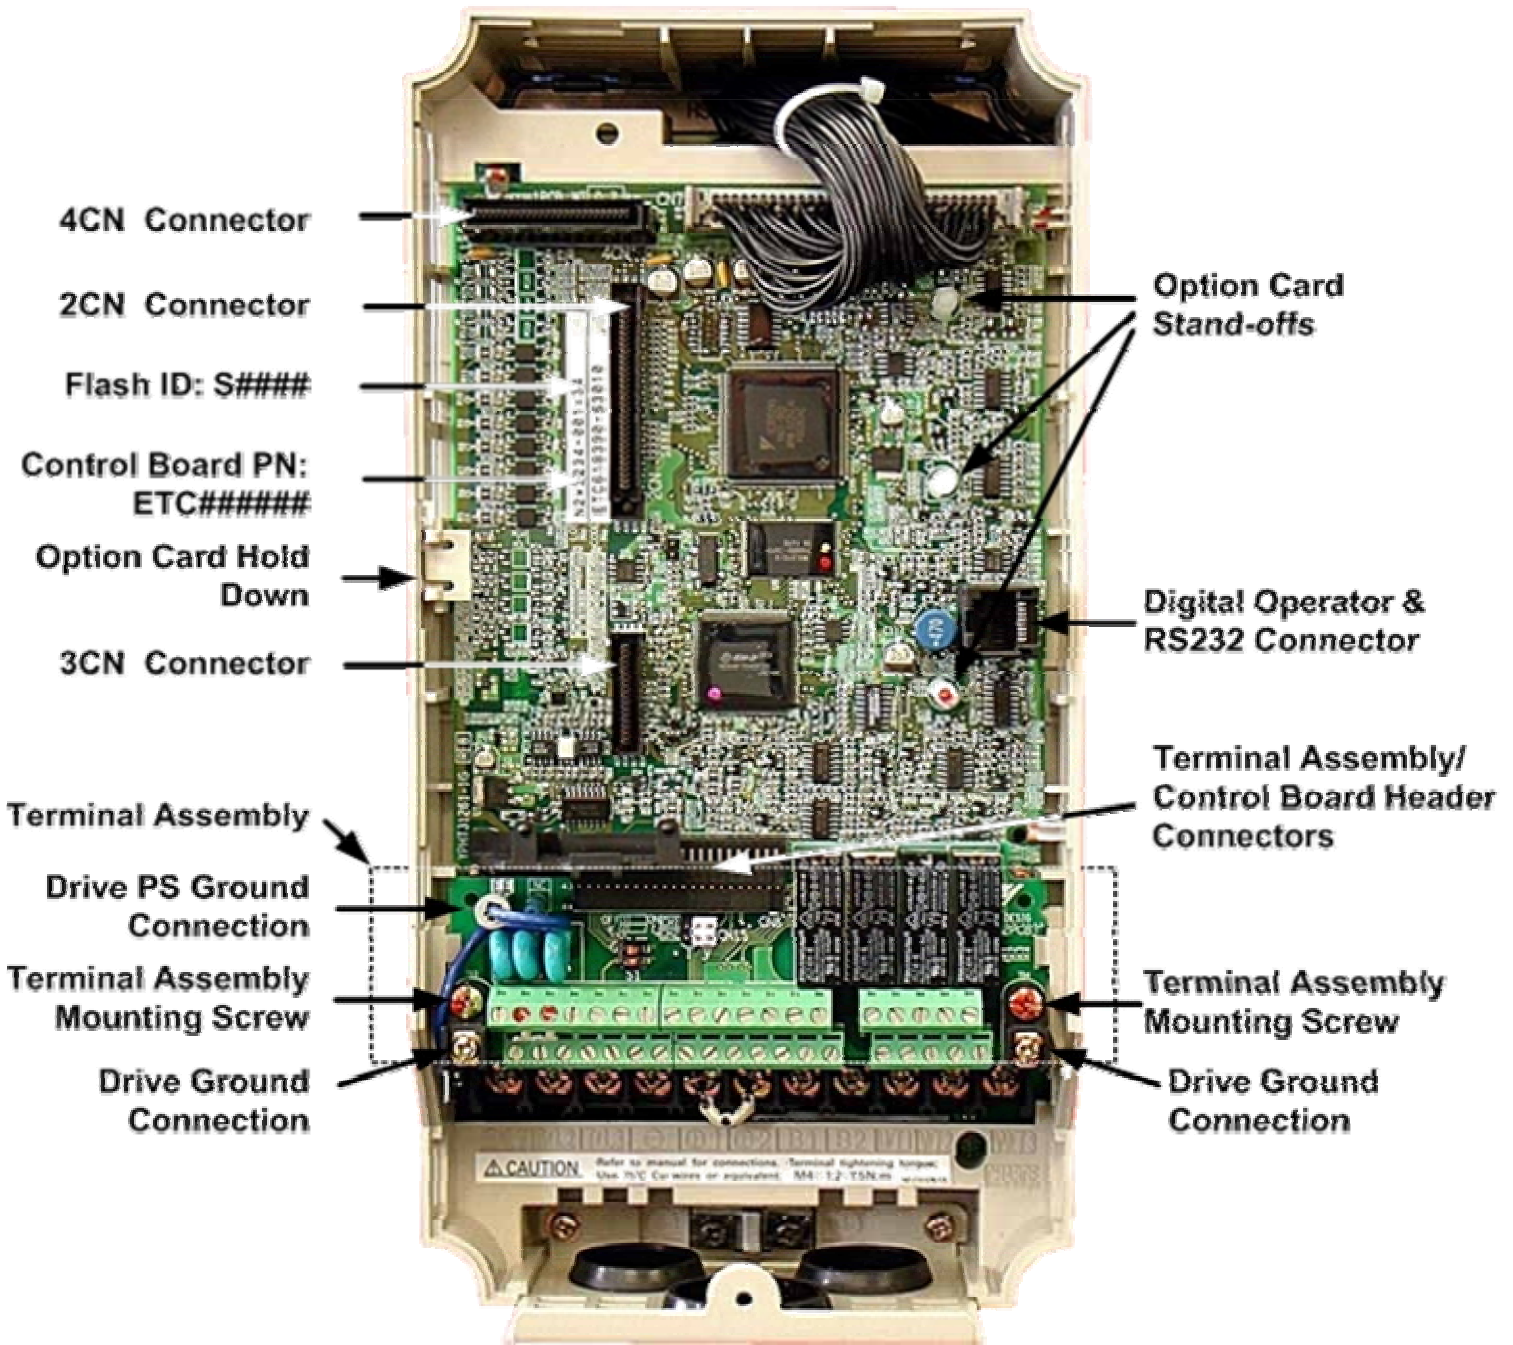
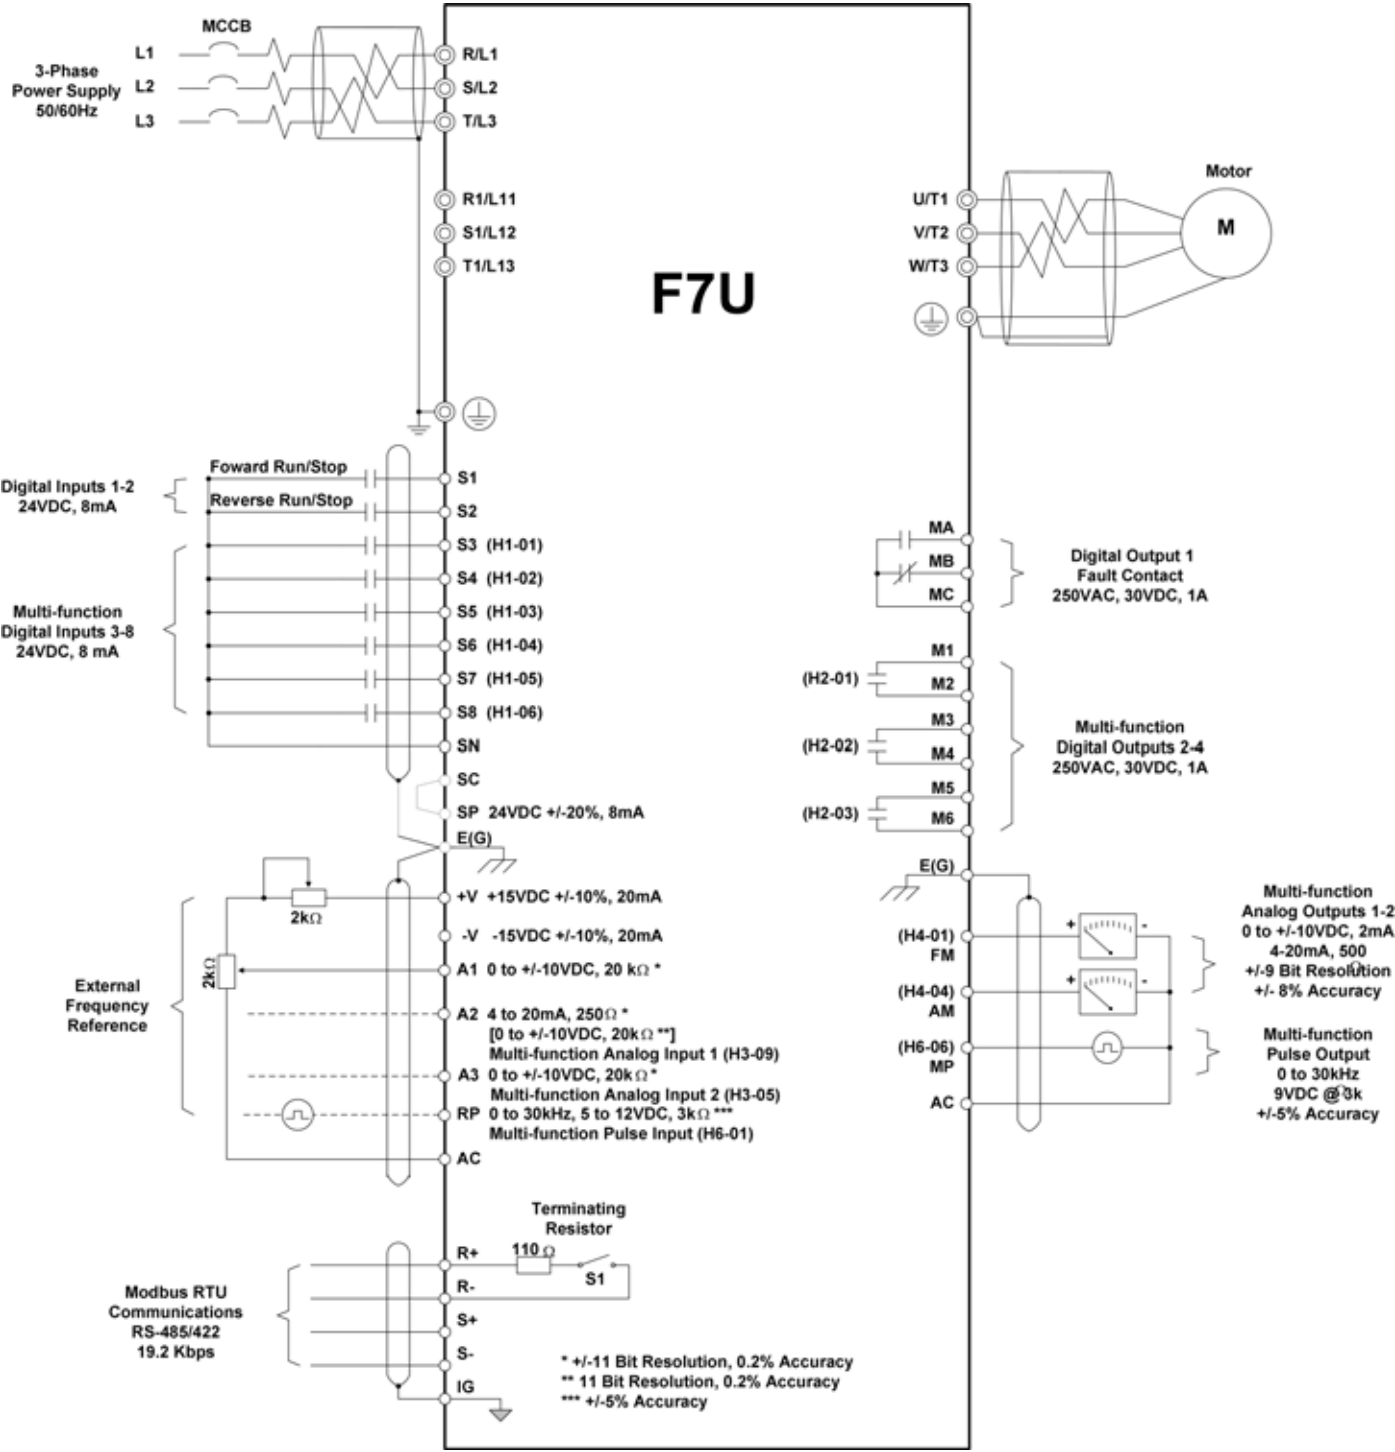

Figure 1.1 – F7U Diagram
Figure 1.2 – F7U Drive Connections
- 4.2:** Connect the RJ45 port on the front of the F7 drive to the controller serial port. Refer to *Figure 1.1 – F7U Diagram* for the location of drive connectors. Use a DB9 to RJ45 adapter with a standard Ethernet CAT-5 patch cable or use Yaskawa cables, part numbers UWR00468-1 or UWR00468-2. **Do NOT connect this cable to an Ethernet port** on the controller, as damage to the controller and/or F7 drive may result. Refer to *Figure 1.2 – RS232 Connections* for a description of the interface cable.